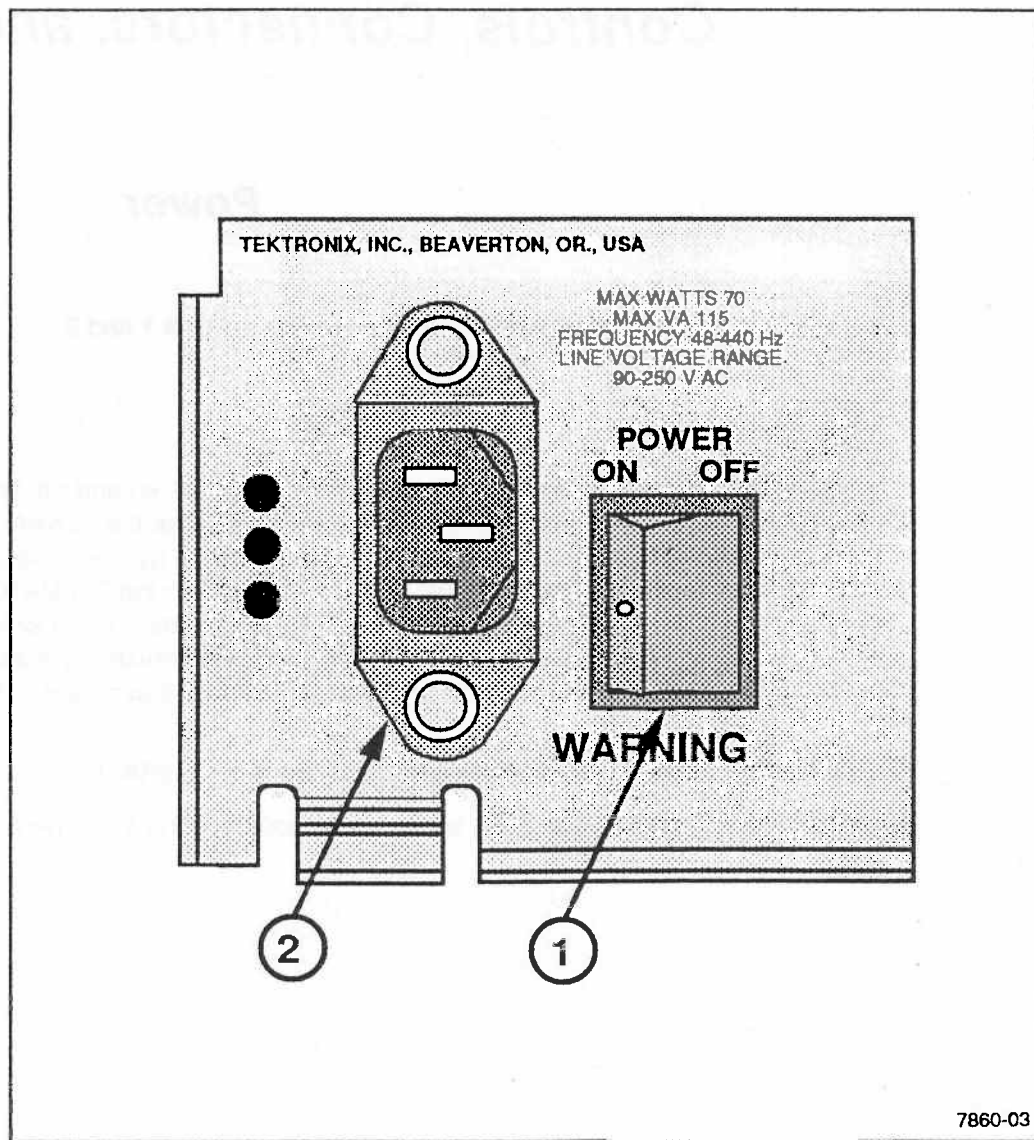

Figure 3-1. Power control and connector.
Refer to Figure 3-1 for the location of items 1 and 2.